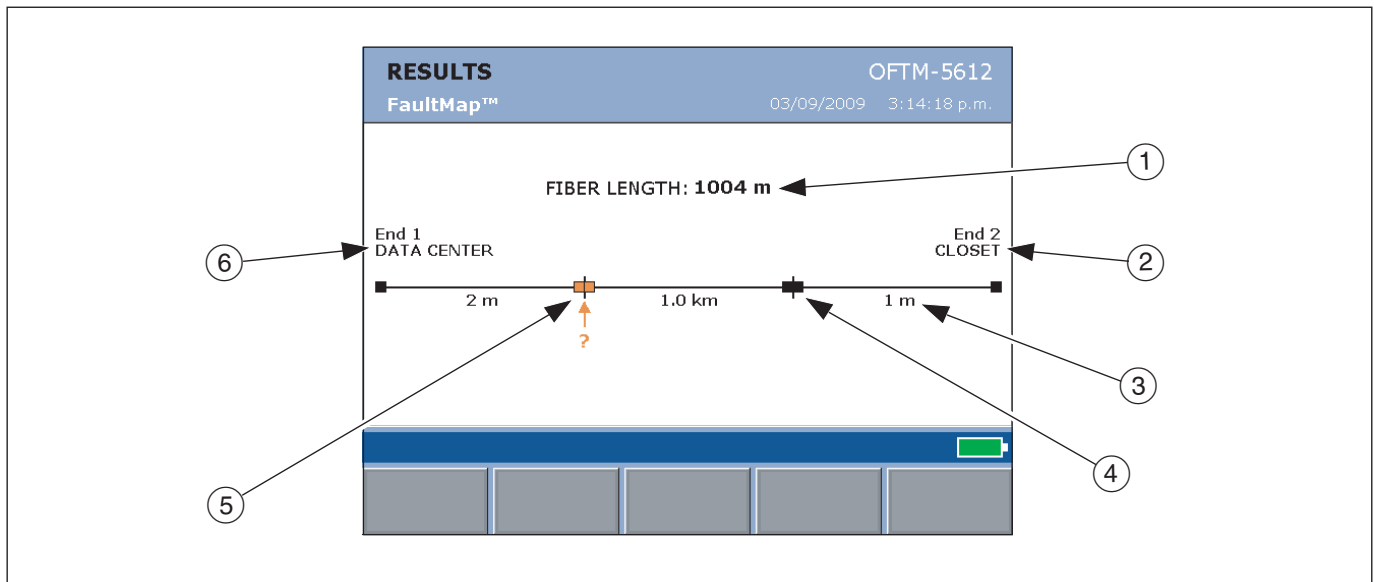

Figure 5-3. FaultMap Diagram Features
- 5 Press **TEST**. Figure 5-3 describes the features of the FaultMap diagram.
Figure 5-3 describes the features of a FaultMap diagram.